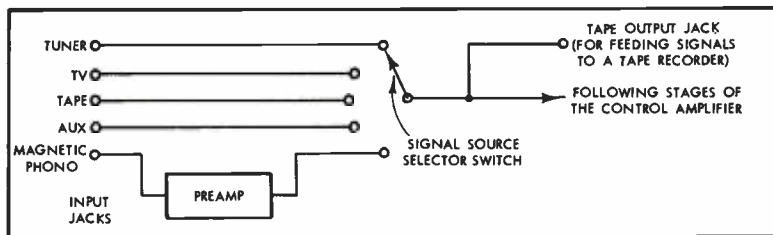

Fig. 15. Method employed in some control amplifiers for feeding incoming signals directly to a tape recorder.
When recording from a source other than a microphone—FM tuner, AM tuner, TV sound, phono pickup—most audiophiles will obtain the signal from a control amplifier, as illustrated in Fig. 13, rather than by feeding the source directly into the tape recorder, as shown in Fig. 14 (where the source is a tuner). In a number of control amplifiers, the incoming signal is routed directly to the tape output jack (for feeding a tape recorder), without amplification or attenuation of the signal, as illustrated in Fig. 15. Since high-level sources generally produce at least 0.5 volts on peaks, it would appear that a tape recorder sensitivity—input signal required to drive the machine to full permissible recording level—of 0.5 volts is sufficient for high-level signals. However, it is advisable to allow for two contingencies: (1) the occasional high-level source that produces less than 0.5 volts; (2) the desirability of going above normal recording level, as for example on speech, where distortion is less apparent than on music. Accordingly, the high-level input sensitivity of a tape recorder should be about 0.1 to 0.2 volts.